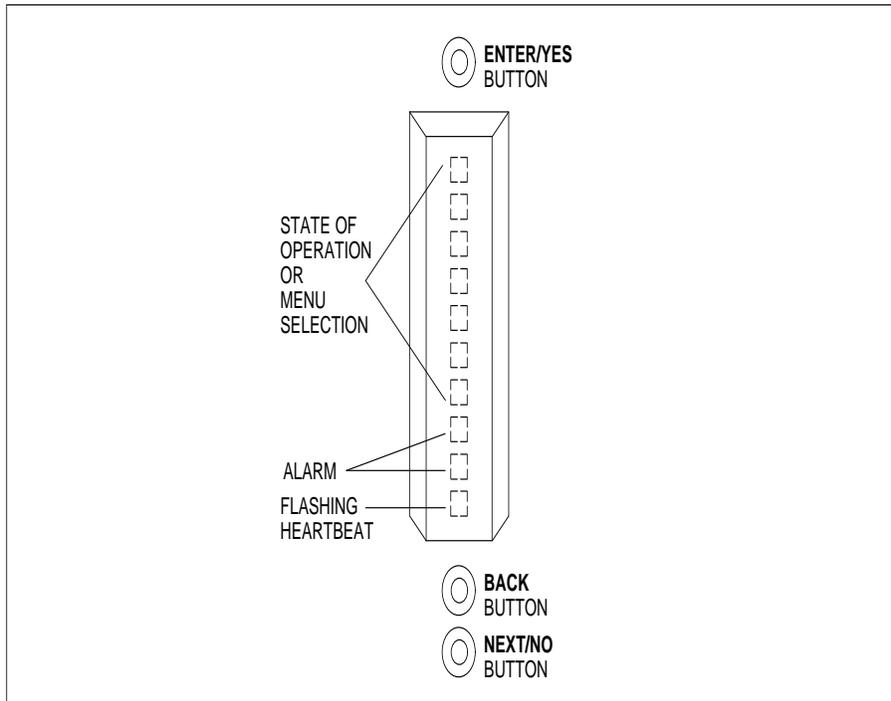

Figure 2-3. DEFINITY AUDIX System LCD Display
7. As the DEFINITY AUDIX system comes up, watch the LCD on the faceplate (see Figure 2-3, DEFINITY AUDIX System LCD Display). The LCD display identifies the states and alarms for the DEFINITY AUDIX system.